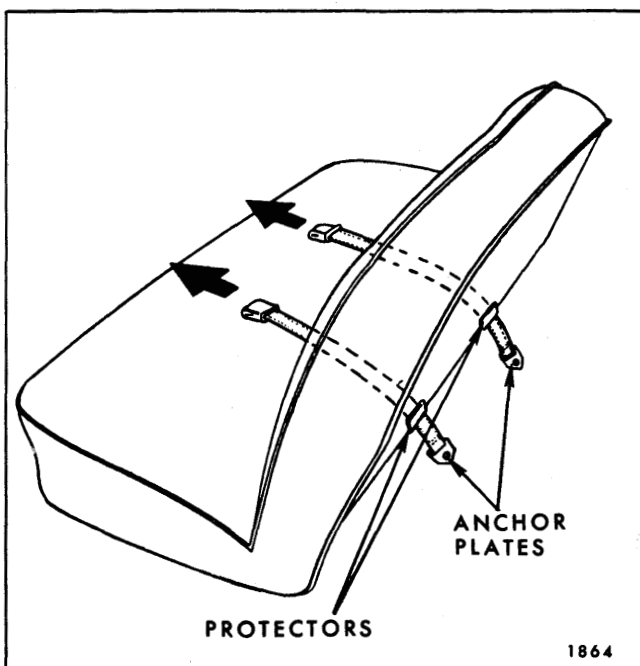

Fig. 10-78—Removal of Seat Belts from Bench Type Seats
2. Bench Type Seats Only: Pull inboard belt from front of seat thru protector, and from between front seat cushion and back (Fig. 10-78).
2. Bench Type Seats Only: Pull inboard seat belt from front of seat thru protector and from between front seat cushion and back (See Fig. 10-78).
2. From front of seat, pull seat belt thru protector and from between front seat cushion and back (See Fig. 10-78).